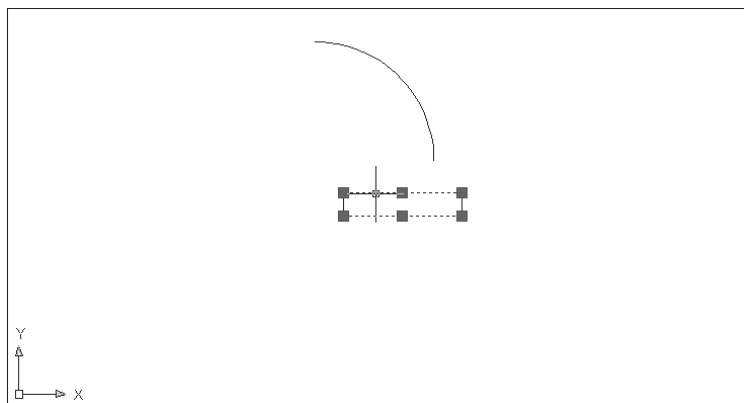

Figure 4.2
2. Click each of the two horizontal lines of the rectangle. As you select the first object, the Quick Properties panel appears. This panel displays some of the properties of the selected object. In addition, the selected object is highlighted, as shown in Figure 4.2.